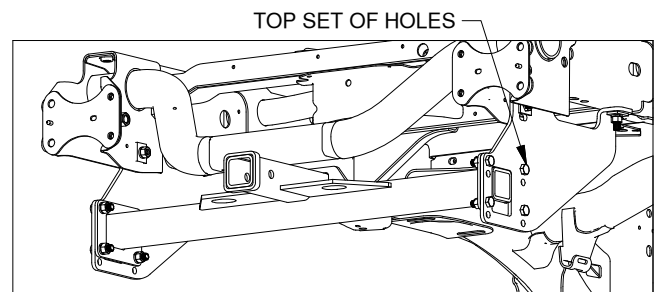

Figure A2: View of truck without factory receiver hitch. (Bumper not shown)
- For pickups without a factory receiver hitch or with the factory receiver tube cut off of the round frame/ bumper support, the center section should be bolted to the side plates in the top set of holes and oriented so the receiver tube is on top of the cross tube, see Figure A2.